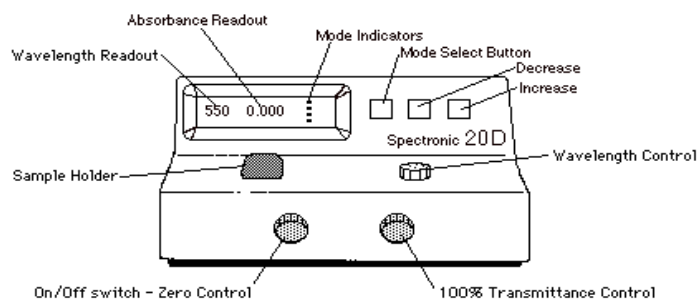

Figure 4: Labeled Diagram of the Digital Spec-20 Spectrophotometer. This figure will be referenced in the text.
1. Set the wavelength to 530 nm using the wavelength control knob shown in Figure 4.
2. Ensure that the filter setting is moved all the way to the 340-599nm setting. This is a lever located under the On/Off knob, but not pictured in Figure 4.
2. The “Mode indicator” light should indicate that the Spec-20 is reading in %T Mode. If it is not, change the mode by pushing the “Mode Selection Button” (See Figure 4) to toggle the mode to %T.